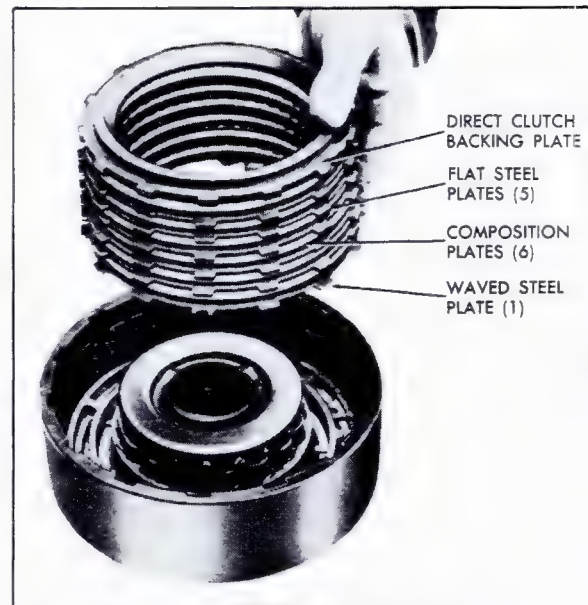

Fig. 7-85 Installing Direct Clutch Plates
7. Lubricate the five flat and one waved, U-notched steel and six composition clutch plates with transmission fluid and install clutch plates in direct clutch housing Fig. 7-85. Start with waved steel plate and alternate composition and steel plates.